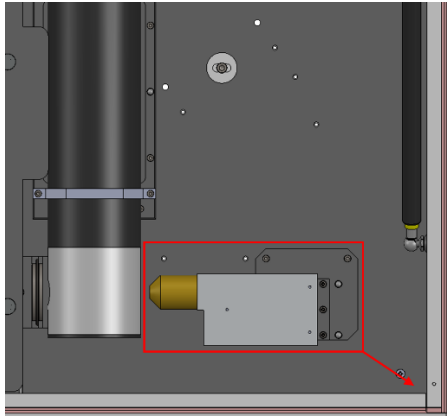

Figure 26: Direction to move MagPro to during source exchange.
3. Temporarily move the MagPro assembly to the bottom right corner of the XS1 (as indicated in Figure 26). This is required to allow the N5084 to move to the 'out of line' position.